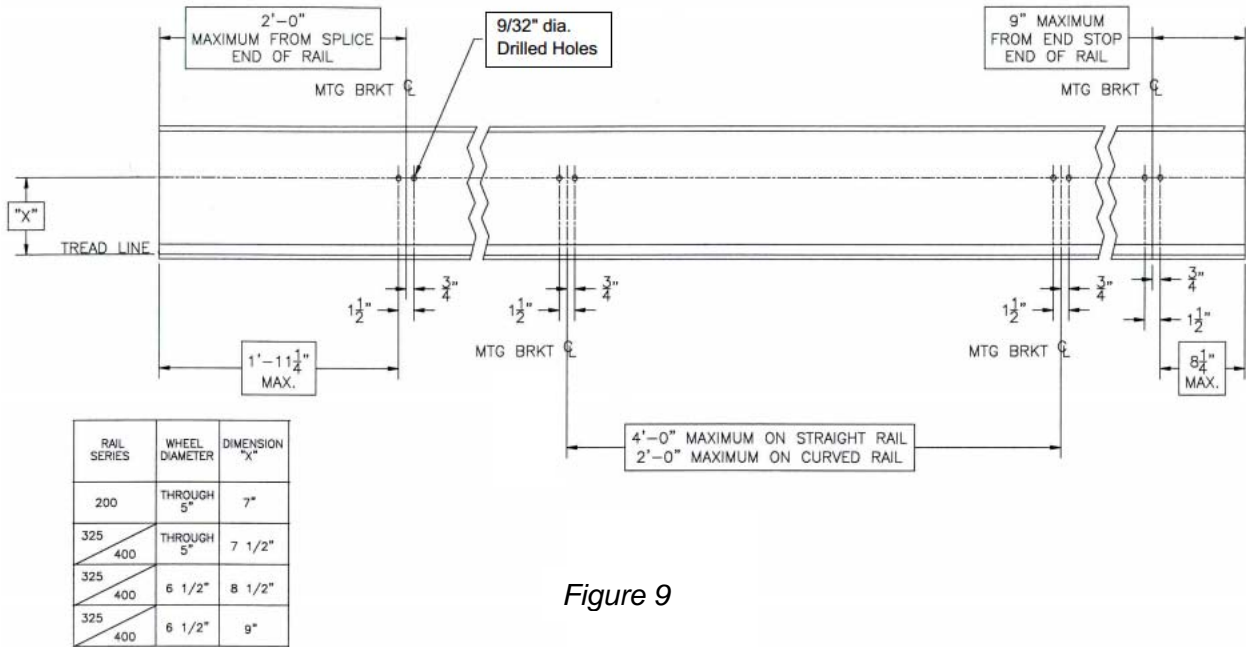

Figure 9
- ✓ Side Contact Conductors: if the rail has been provided with punched web holes for “side contact” mounted bars, begin by installing the mounting brackets. See Chart “B” of these instructions for proper orientation. If the rail web has not been punched, locate and drill mounting holes per instructions shown in Figure 9.
Note: nylon bushings are used as reducer bushings for 1/2" diameter mounting holes factory punched in web of 325 Series rail. Not required for 200 Series rail (holes are factory drilled at 9/32") or if web holes are field drilled to size (9/32"). See Figure 9 for field drilling instructions.